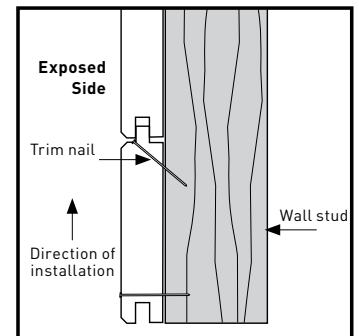

Figure 2
4. Nail the first row by driving nails into the bottom face of the board and by blind nailing into the tongue along the top edge. (Figure 2)